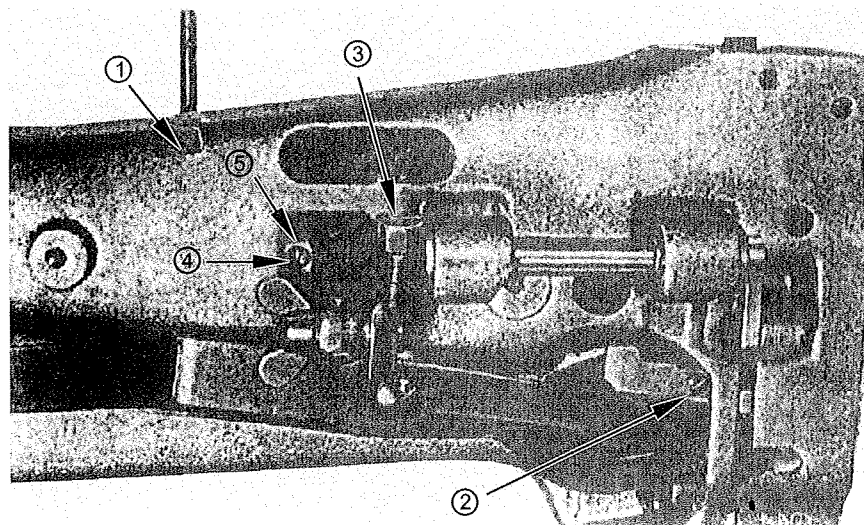

Fig. 23
Loosen the screw (①, Fig.23) sufficiently, raise the presser bar lifter and loosen the set screw (②, Fig.23). Move the lifting presser foot (A, Fig.7) up or down as may be required so as to get the correct height and tighten the screws.
To adjust this, lower the presser bar lifter, holding the vibrating presser foot (B, Fig.7) and loosen the hexagon screw (③, Fig.23) and move the presser foot up or down as may be required. After setting the position, tighten the screw.
To adjust this, set the lift of the alternating presser feet to equal, loosen the two screws (④, Fig. 23) and adjust the rotating position of the cam (⑤, Fig.23) faster or slower as may be desired, and tighten the screws.